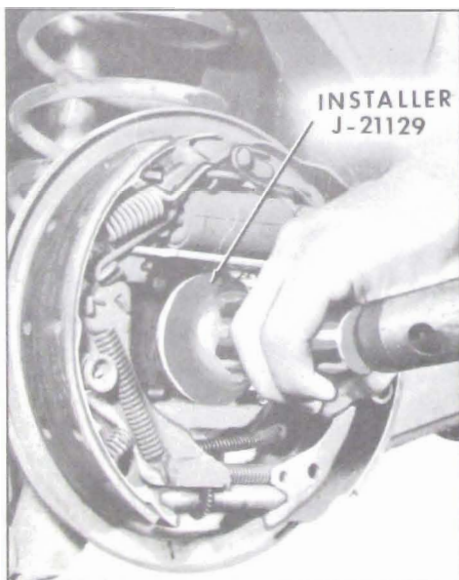

Fig. 6-10—Installing Axle Shaft Seal
4. Position seal over Installer J-21129 and drive seal straight into axle housing until fully seated. See Figure 6-10.